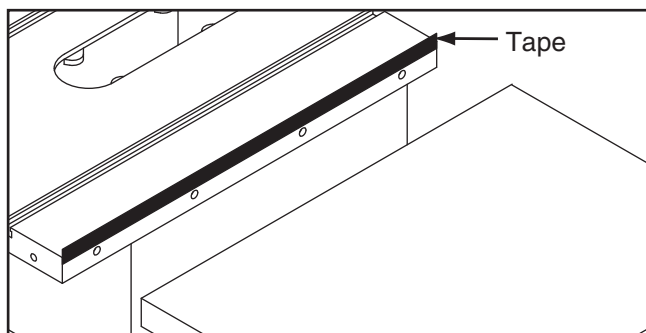

Figure 7. Positioning the tape to shim the router table down.
- If the outside edge of the router table tilts up, place strips of masking tape along the *top* edge of the saw table to shim the router table down and even with the saw table from side to side (see **Figure 7**).